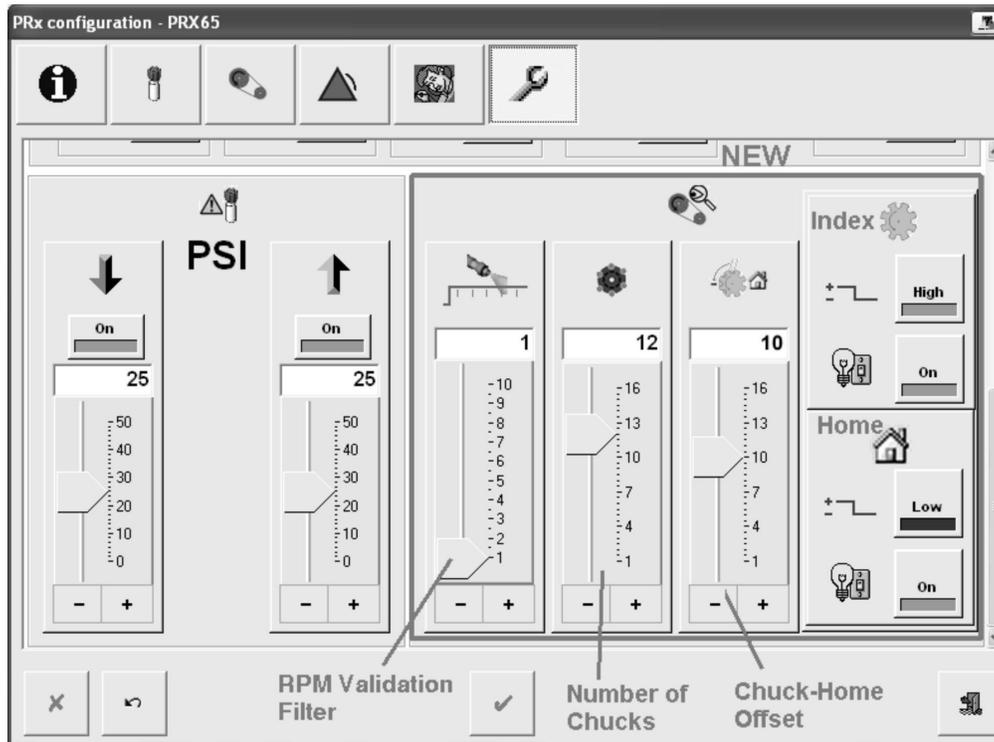

Figure 7 PRx II Configuration Service Screen (for the case in Figure 6)
3. See Figure 7. Through the iTRAX OI, go to the PRx II configuration *Service Screen* to customize the settings for *Chuck-Home Offset*.
To be sure that the alarms correspond with the correct readings at a chuck spinner, the *RPM Validation Filter* (shown in Figure 7) allows the PRx II module to differentiate between readings that are taken before the chuck spinner has had enough time to reach the desired spin speed. The *RPM Validation Filter* defines which RPM measurement is the first to be accepted and applied to the alarm criteria during the spray duration. The *RPM Validation Filter* number and all the readings following that number for the duration of the spray cycle are applied against the alarm criteria.